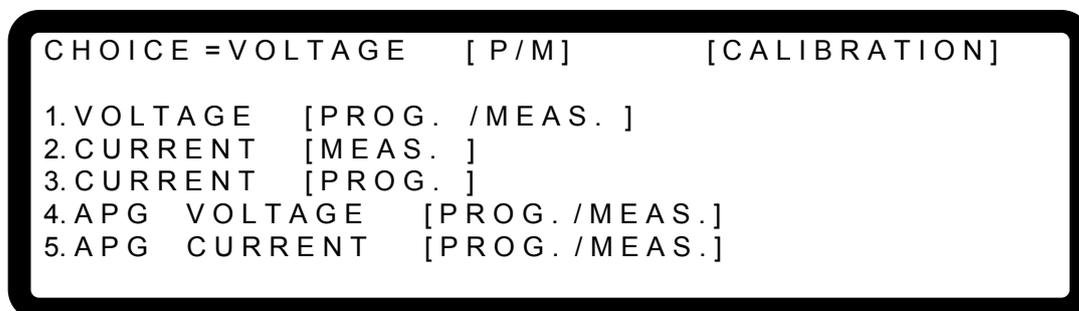

Figure 3-90
2. Enter the password and press “**ENTER**” to confirm. The screen will display 4 calibration options as Figure 3-90 shows. The calibration steps are described from section 3.3.7.1 to 3.3.7.5.
1. Enter into the page of Figure 3-90.